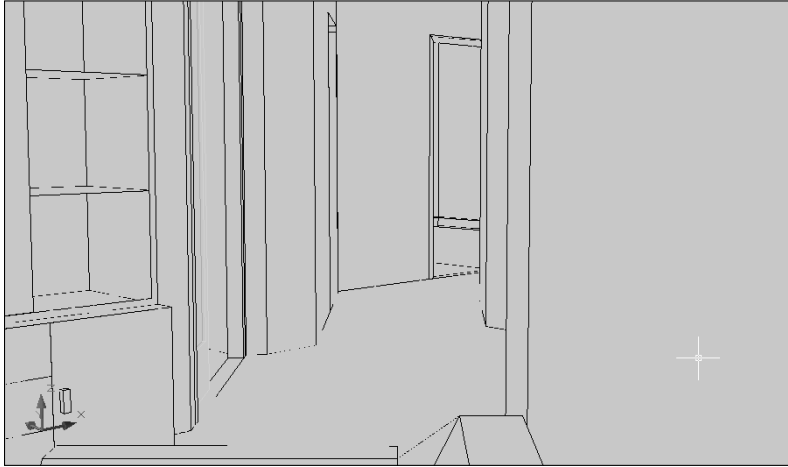

**Figure 22-27:** The start of a walk down a hall.
2. Save the drawing as `ab22-03.dwg` in your AutoCAD Bible folder. You're inside a 3D house, looking down a hallway, in the 3D Hidden visual style, as shown in Figure 22-27. Type **ucsortho** ↵ and set its value to 0.